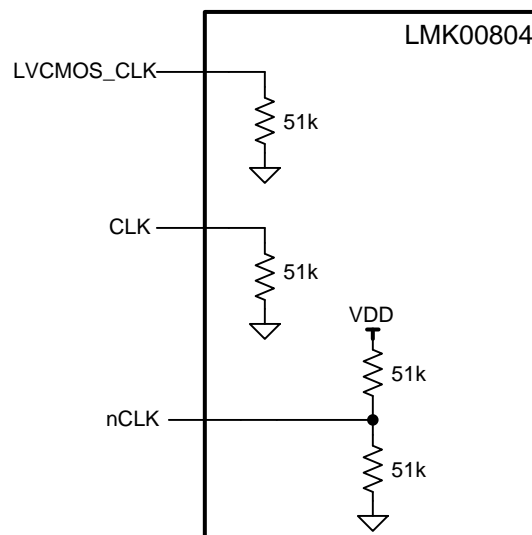

Figure 10. Clock Input Components
- **CLK/nCLK Inputs:** See Figure 10 for the internal connections. When using single ended input, take note of the internal pull-up and pull-down to make sure the unused input is properly biased. To interface a single-ended input to the CLK/nCLK input, the configuration shown in Figure 12 is recommended.
- **LVC MOS\_CLK Input:** See Figure 10 for the internal connection. The internal pull-down ( $R_{PD}$ ) resistor ensures a low state when this input is left floating.